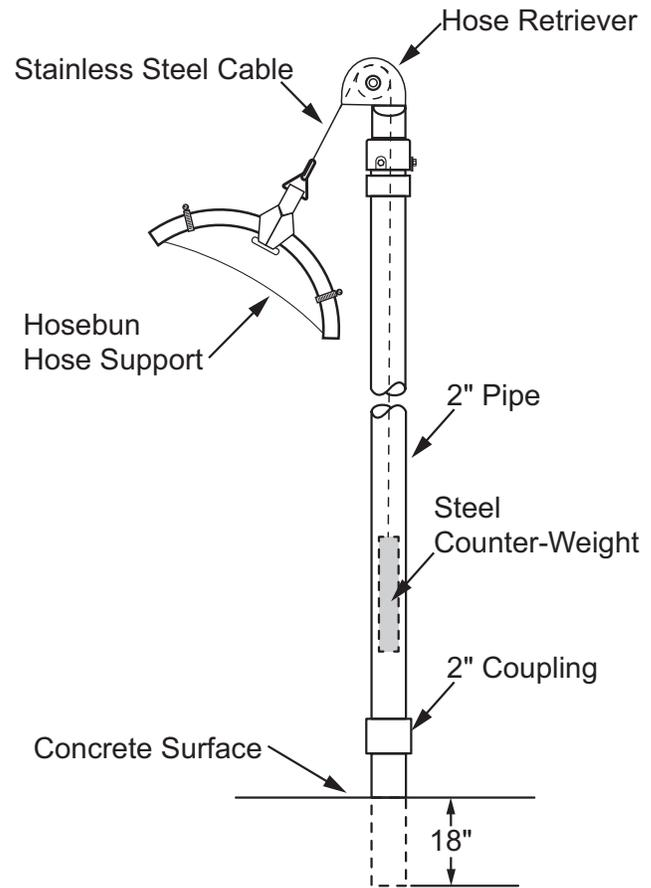
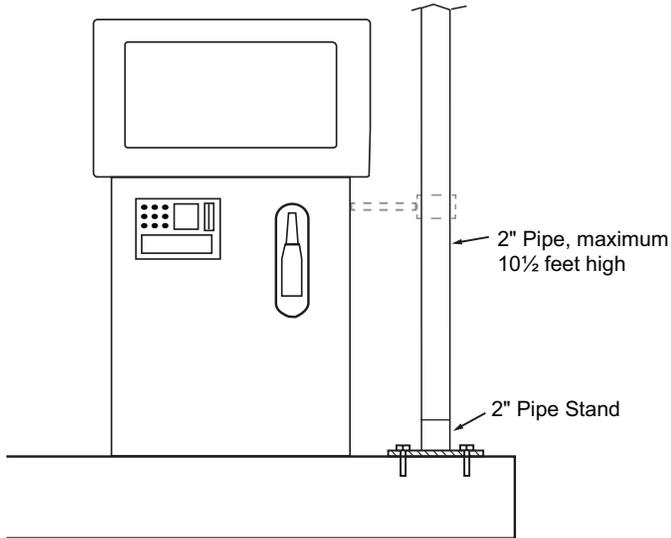

Figure 2: Hose Retriever Mounting in Concrete
Figure 3: Pipe Stand Mounting
- Bury the end of the pipe in concrete (see Figure 2).
- Use FFS part numbers HRTRVRBASE (ordered separately) and secure the base with four 5/8" concrete anchors and bolts. (not included with HRTRVR) (Refer to Figure 3).
8. Screw bottom of the pipe section into 2" pipe coupling (figure 2) or the Base mount (Figure 3).